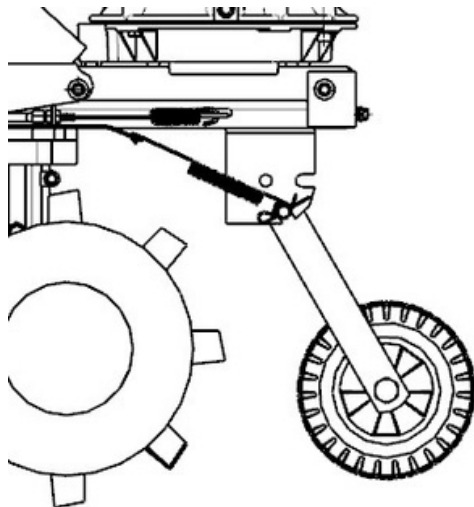

Figure 10
- 1) Adjust front wheel of mini tiller to the state shown in Fig. 10 when it is going to drive on the road.